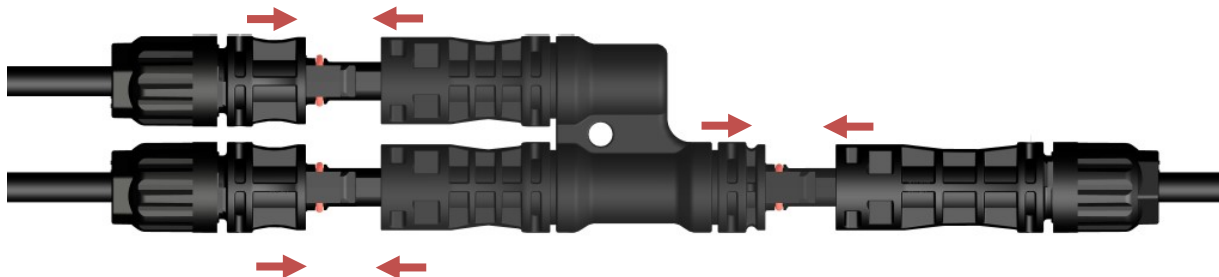
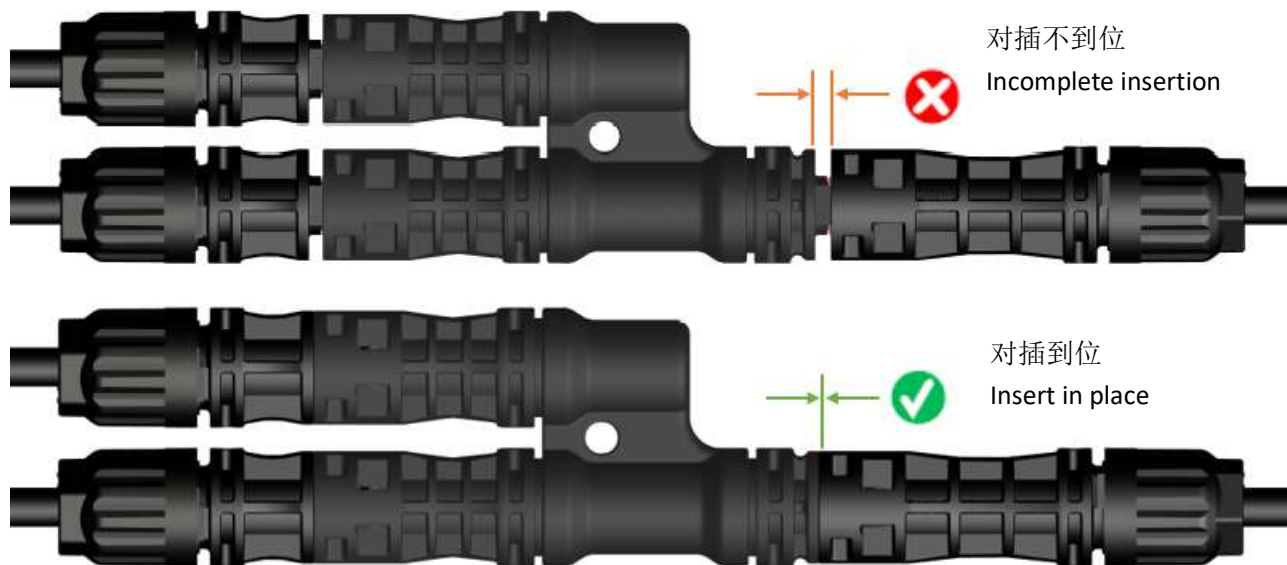

Figure 1
Figure 2
- ✧ 分支连接器与公母电缆连接器插合：使用公母电缆连接器与保险丝连接器进行对插，直至其啮合。拉拔对插的连接器，检查保险丝连接器与公母电缆连接器是否完全连接好（如图 1）；禁止安装未完全耦合的连接器，避免锁扣失效，安装时须检查是否对插到位（如图 2）。
Insert the branch connector with the male and female cable connector until they engage. Pull the plug connector and check whether the fuse connector and the male and female cable connector are completely connected (Figure 1). Do not install connectors that are not fully coupled to avoid lock failure. Check whether the connectors are properly inserted (Fig. 2).